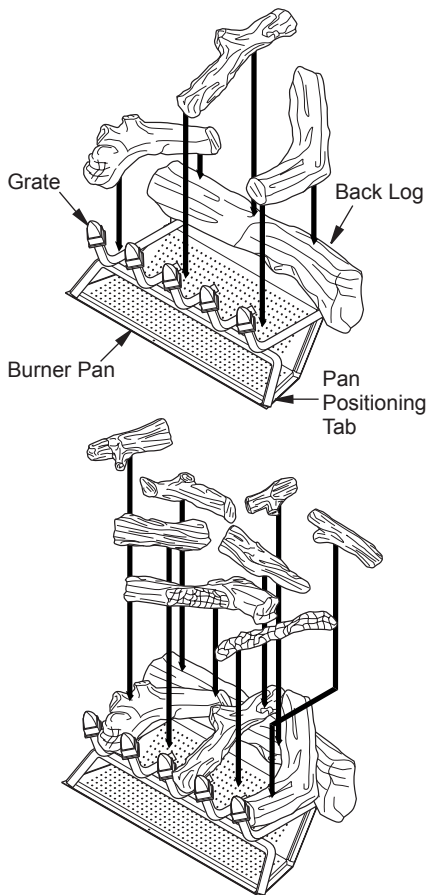
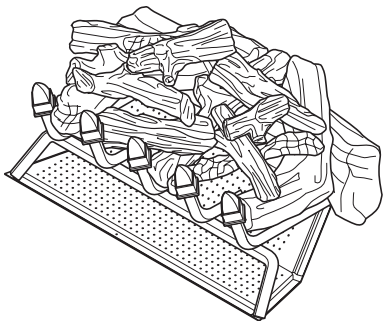

Figure 7 - Installing Logs
Figure 8 - Placement of Top Logs
2. Place the large back log on the grate at the top tier (rear) of the ramp (see Figure 7).
3. Figure 7 and Figure 8 on page 9 show a recommended log arrangement, however you may arrange the logs as you wish. Leave as much open space between logs as possible to minimize flame impingement and sooting. **Note:** Logs may chip if they are handled roughly or if hit together while being placed.